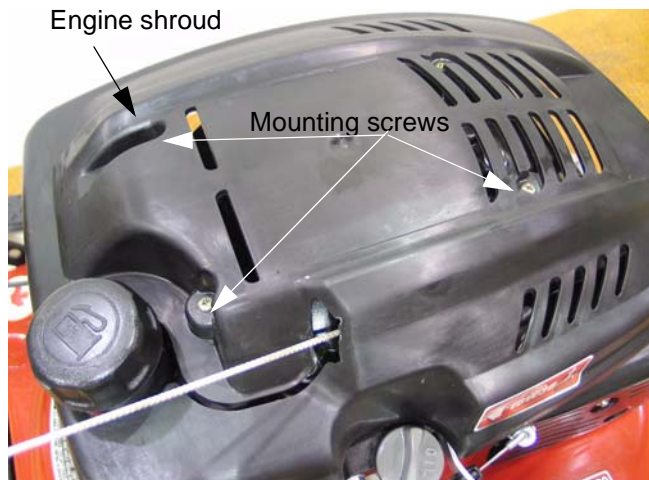

Figure 6.1
2. Remove the four screws that hold the engine shroud to the engine. See Figure 6.1.